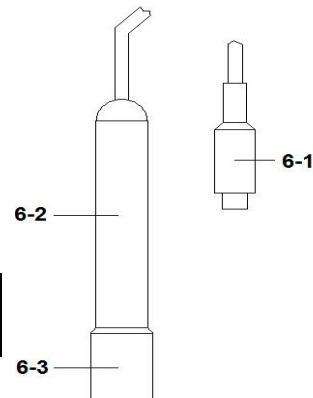

Fig. 3
- Connect the conductivity Probe (CDPB-03) (6-1, Fig.3) into the "CD" Socket (3-15, Fig.1)
- Hold the electrode handle (6-2, Fig. 3) by hand and let the sensing head (6-3, Fig. 3) immersed wholly into the measured solution and little shake the electrode.
2. Connect the conductivity Probe (CDPB-03) (6-1, Fig.3) into the "CD" Socket (3-15, Fig. 1).
1. Connect the conductivity Probe (CDPB-03) (6-1, Fig.3) into the "CD" Socket (3-15, Fig.1)